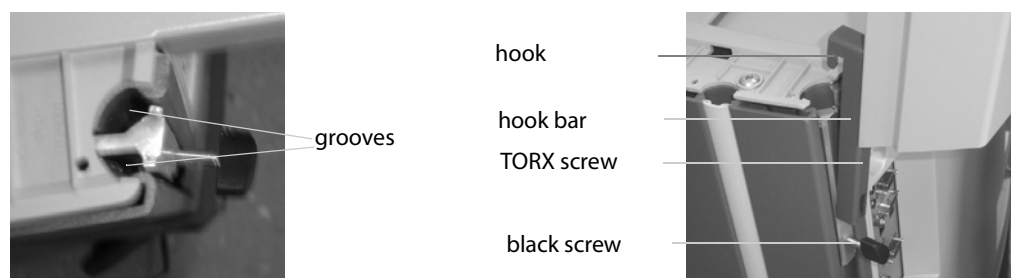

Figure C-7. Hooks and grooves for holding monitor base.
- 6 Use a TORX 30 screwdriver or an NV4 Allen key to remove the 2 screws on the hook bars (see Fig C-7) that are attached to the back of the monitor base.
- 2 Slide the hook bars of the monitor base into the grooves (see Fig C-7). Make sure that the hooks are in place at the top of each groove so that the monitor base is supported correctly.